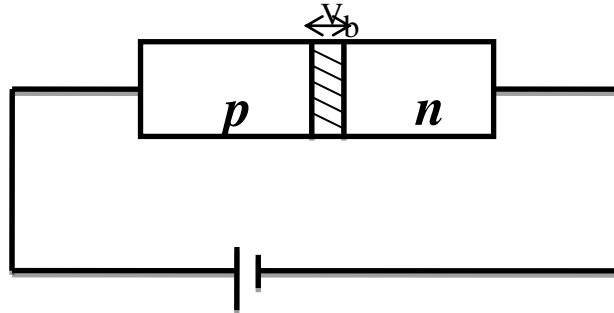

Figure 12.6
**Forward bias characteristic:** the p-n junction diode is said to be forward biased if the positive terminal of battery is connected to the p-type and the negative terminal to the n-type of semiconductor as shown in Fig. 12.6.